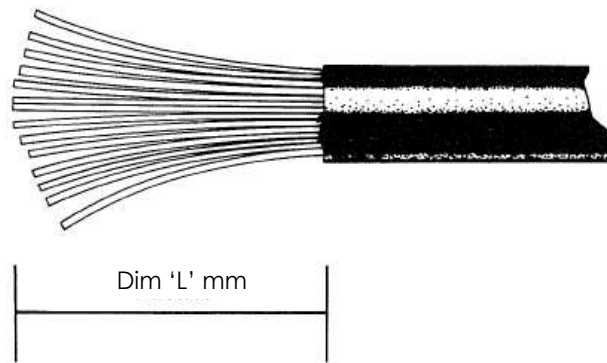

Figure 1 Cable jacket cutback
- 5.1. Cut back the cable jacket and shield sufficiently (Dimension L) to terminate the conductors to the connector. See Figure 1. The recommended dimensions depend upon the size of the Rayaten Moulded Part and are given in Table 1. Allow an extra 20 mm for service loops if required.